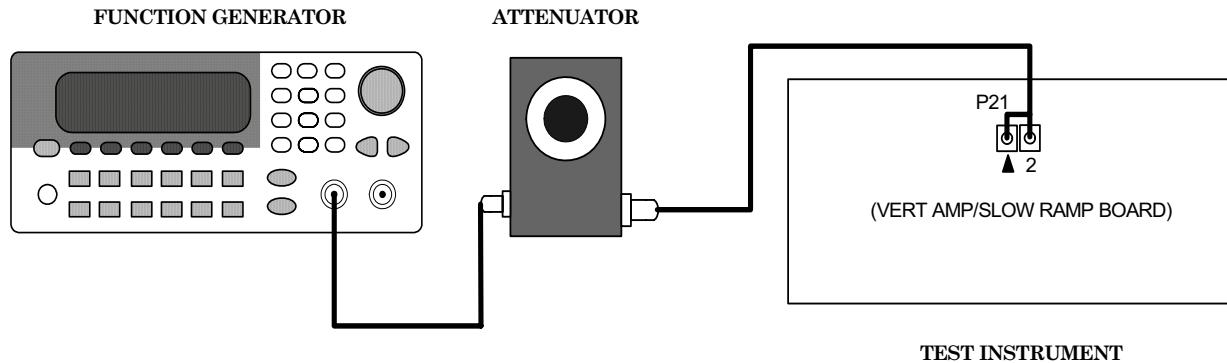

Figure 1. Vertical attenuation and gain - equipment setup.
- (a) **RET LOSS (dB)** (**SENSITIVITY (DB)**) switch and **FINE** controls to **0 dB**.
- (2) Disconnect P21 from VERT AMP/SLOW RAMP BOARD (fig. 1) (located directly behind center of front panel on left side of board) and connect equipment as shown in figure 1.